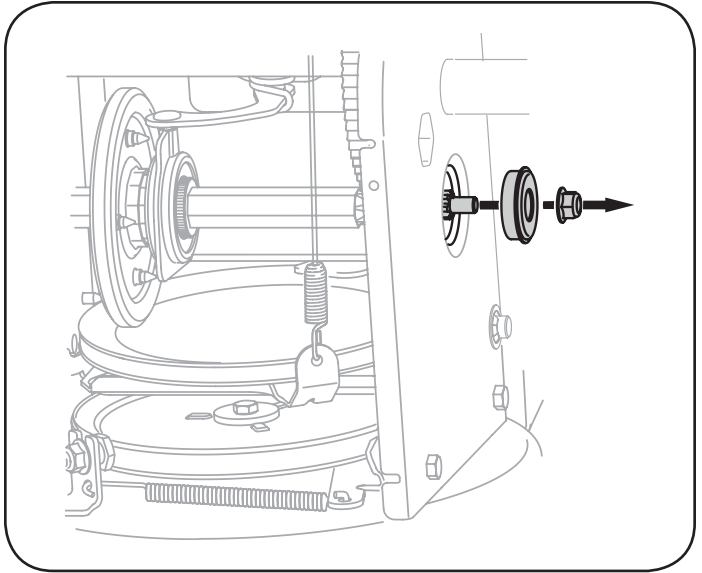

Figure 34
- Carefully remove the hex nut and washer which secures the hex shaft to the snow thrower frame and lightly tap the shaft's end to dislodge the ball bearing from the right side of the frame. See Figure 34.